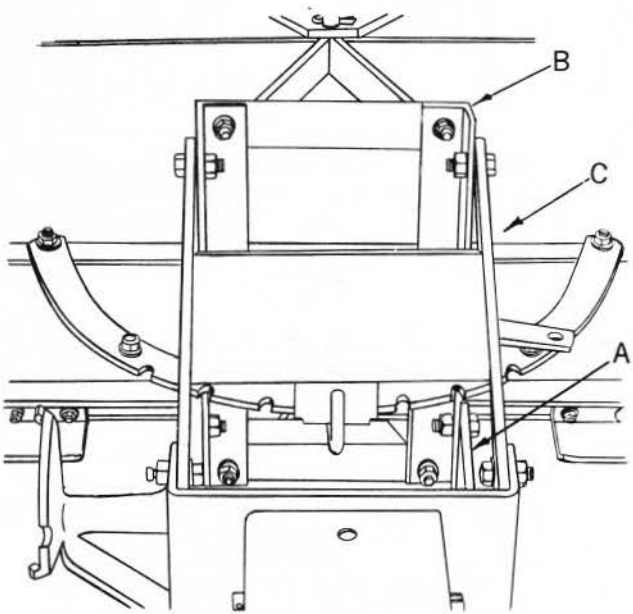

FIG. 2
1. Assemble lower frame (A), to front frame (B), with two $7/16 \times 1\frac{1}{4}$ hex bolts, flat washers, bushings and lock nuts provided.
NOTE: Bolts, flat washers and bushings will go through lower frame (A), then through front frame (B), with lock nuts to inside as shown in Fig. 2.
2. Assemble upper frame (C), to front frame (B), with two $7/16 \times 1\frac{1}{4}$ hex bolts, flat washers, bushings and lock nuts (provided), in same manner as lower frame. Tighten all nuts securely.
6. Attach push straps (M), to front axle bracket (N), both sides), with drilled rivets (O), and retainer springs (P), provided.
7. Assemble lever stop (Q), to quadrant (R), of rear frame assembly with a $3/8 \times 1/4$ hex bolt. This bolt is heat treated, refer to circled inset above Fig. 2, page 3. Head of bolt to outside. Secure with a $3/8$ lockwasher and hex nut. Tighten nut securely. All parts provided.